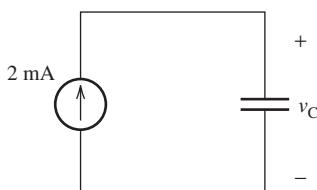

FIGURE P4.14 Circuit for Problem 4.14.
- 4.14** (A)* At $t = 0$, a 2-mA source is applied to an uncharged 1.2- μF capacitor as shown in Figure P4.14. Determine (a) the capacitor voltage, v_C , at $t = 20$ ms and (b) the energy, w_C , stored in the capacitor at $t = 20$ ms.